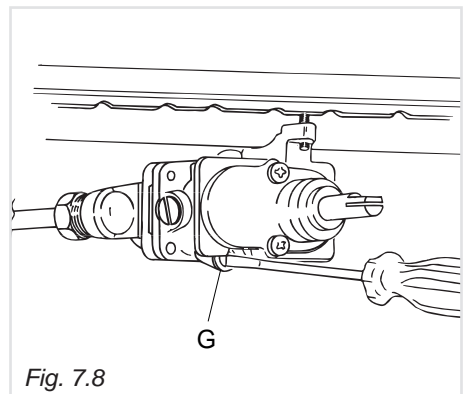

Fig. 7.8
- remove the knob and unscrew the by-pass screw "G" (fig. 7.8) about three times by passing a small flat screwdriver (Ø 3 mm blade, 100 mm length) through the panel opening;
- after having removed the knob again and being very careful not to turn the tap rod, slowly screw the by-pass screw "G" (fig. 7.8) until you obtain a flame of 3-4 mm in height.